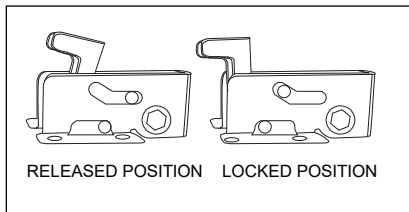

Figure 18 Latch Positions
- i. Before attaching the latches, make sure they are in the fully released position (Figure 18) and the door handle is in its fully open position. Then, slide the top latch into its mounting location, and slide the rod 1/2" beyond the latch. Tighten the latch set screws. Repeat with the remaining middle latch, then the bottom latch. Make sure that the door rod extends .5" past the bottom latch when finished.